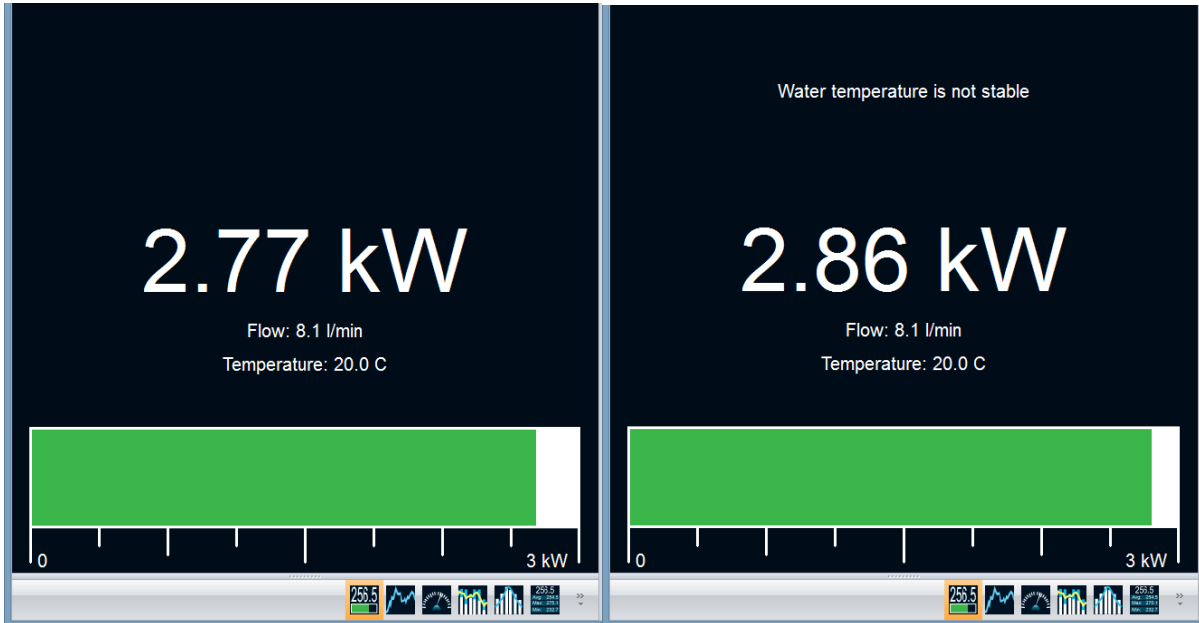

FIG. 2-2 A & B PC INTERFACE WARNINGS
- The flow rate and temperature are shown in white fonts in normal conditions (FIG 2.2 A).
- If the water temperature is not stable a message will appear (FIG 2.2 B).